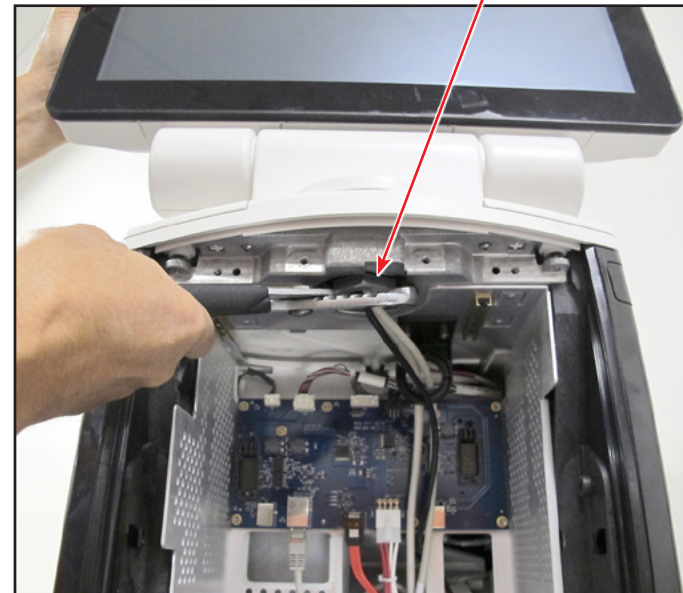

Figure 4-37 Display Rotation Adjustment
- 16.3 With one hand holding the Display Assembly, loosen a 1.5 inch nut on the Display Arm Base Mount Assembly using channellock plier as shown in Figure 4-37.